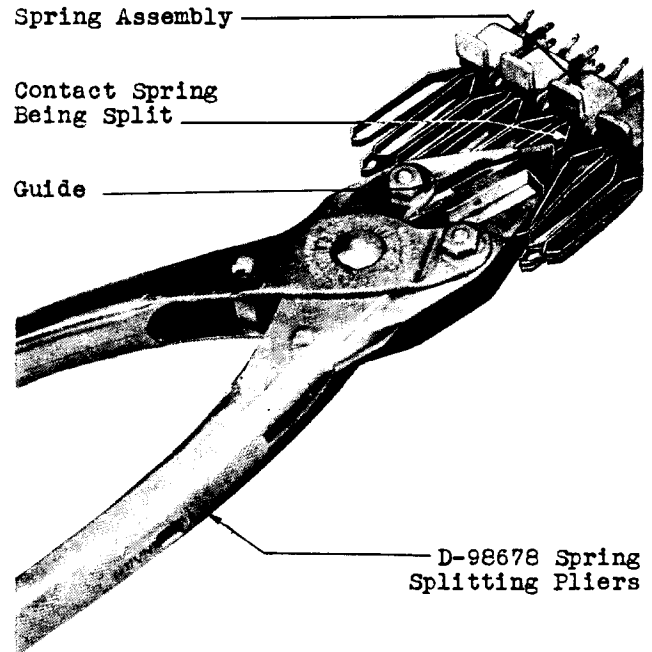

Fig. 2 - Method of Splitting Contact Springs
3.04 With the jaws of the D-98678 pliers completely open, with a sidewise motion move one spring away from its adjacent spring by means of the tip of the guide of the pliers. Make sure that the tip of the spring to be split rests on that side of the guide which forms one side of the hole in the end of the pliers and start the spring into the hole. Do not force the spring into the pliers if resistance to its entrance is felt because this is an indication that the pliers are being held at an incorrect angle or that an adjacent spring is interfering with the pliers. Hold the pliers horizontally and carefully push them towards the back of the sequence switch frame as far as possible as shown in Fig. 2 without forcing and until the tip of the spring bottoms. Grip the pliers firmly near the outer end of the handles taking care not to allow them to move away from the sequence switch. Hold the pliers horizontally to avoid twisting the spring and take care not to apply upward or downward pressure against the spring. Then press the pliers firmly together. Open the pliers and remove them from the spring.